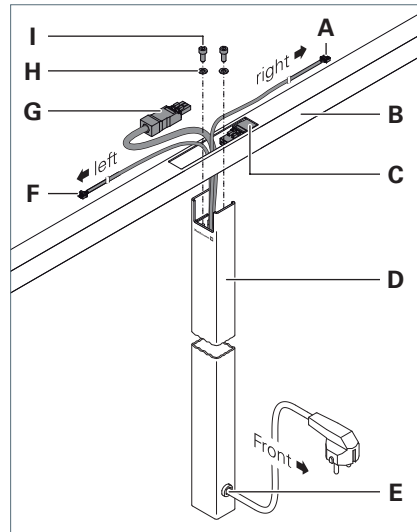

Fig. 3: Mounting the support tube on the column.
- ▶ Guide the cable **G** from below through the opening of the support tube **B**, see Fig. 3.